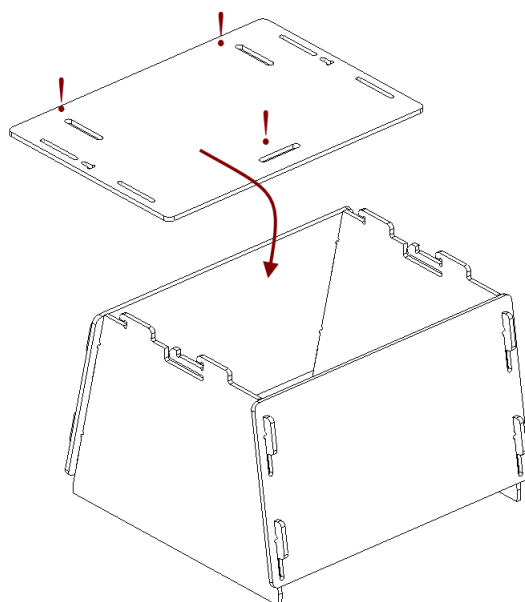

Figure 222: Mounting the cover.
3. Paying attention to orientation of the slots, install the cover using the upper hooks of the side walls (see Figure 222).